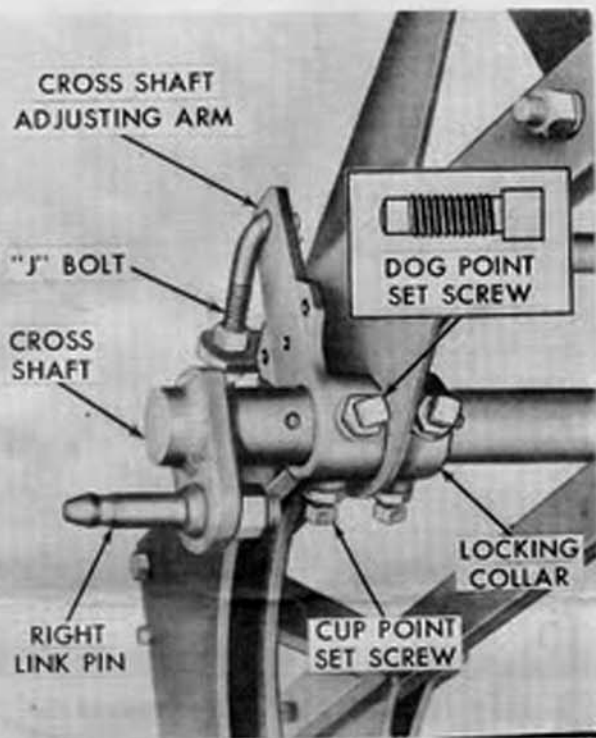

Figure 4 - Cross Shaft Adjustments
**Lateral Adjustment of Cross Shaft:** The adjustable cross shaft on both Ford and FMD plows has a series of four lateral adjusting holes on both the front and rear of the shaft. See Figure 4. Under most conditions, the dog point set screw should be positioned
**Width of Cut:** The "J" bolt shown in Figure 4 controls the width of cut by rotating the cross shaft to angle the plow. For the recommended starting setting, locate the right link pin (see Figure 4) directly below the center of the cross shaft.
If the width of cut is not correct and the tractor wheel tread and other adjustments are correct, correction should be made by adjusting the "J" bolt as shown in Figure 8, or with the Width of Cut Adjusting Lever (sold separately). To decrease the width of cut, rotate the Cross Shaft Adjusting Arm toward the rear. To increase the width of cut, rotate the adjusting arm forward. Should it become necessary to decrease the width of cut more than the limits of the "J" bolt or the Width of Cut Adjusting Lever will permit, the dog point set screw (see Figure 4) should be interchanged with the cup point set screw, then the top of the
to excessive side pull, loosen the locking collar (see Figure 4) and the dog point and cup point set screws in the Cross Shaft Adjusting Arm. Move the cross shaft laterally in the same direction as the front end of the tractor tends to pull. The dog point set screw should then be secured in the next lateral hole in the cross shaft. Tighten the cup point set screw and the set screws in the locking collar securely.
- d. Position the cross shaft adjusting arm (see Figure 4) on the cross shaft, then install the right "A" frame member on the shaft. Position the locking collar (see Figure 4) on the cross shaft and slide the cross shaft through the left "A" frame member. Reinstall the right "A" frame member on the long front bolt and secure with the lock washer and nut (2). Do not tighten securely at this time.
- e. Engage the dog point set screw in the Cross Shaft Adjusting Arm in the second hole from the right in the forward series of holes in the cross shaft, as shown in Figure 4. Tighten the jam nut securely. Tighten the cup point set screw against the cross shaft and secure with the jam nut as shown.
- i. Slide the cross shaft assembly to the left until the Adjusting Arm is against the right "A" frame member, then secure with the locking collar as shown in Figure 4. Tighten the jam nuts on the two collar set screws securely.